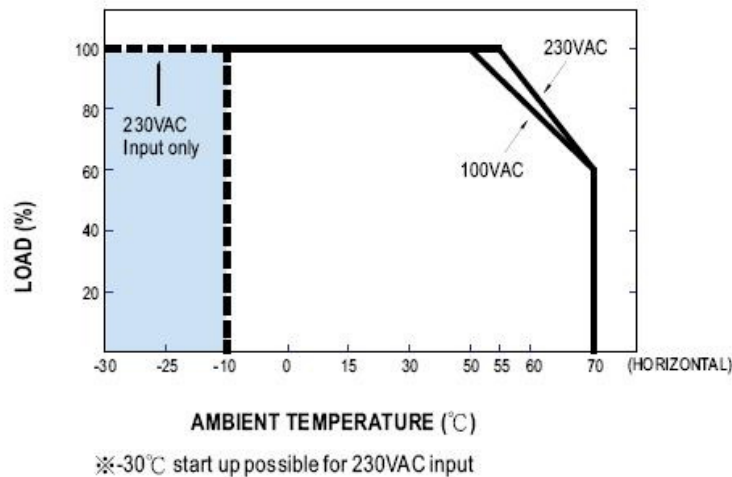

Fig.4.6: De-rating curve for output load against ambient temperature in LED power supply
- In Fig.4.6 (de-rating curve for CLG-150), in order to avoid high temperature rise and maintain the reliability of the power supply, the rated power capability needs to be de-rated when ambient temperature exceeds 55°C for operation at 230Vac input. Due to the abovementioned, the management of operating temperature should be taken into consideration in system design.